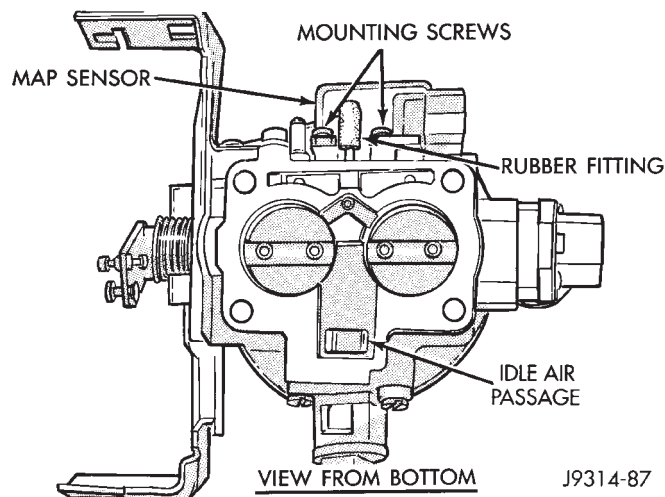

Fig. 45 Rubber L-Shaped Fitting—MAP Sensor-to-Throttle Body
(1) Inspect the rubber L-shaped fitting from the MAP sensor to the throttle body (Fig. 45). Repair as necessary.